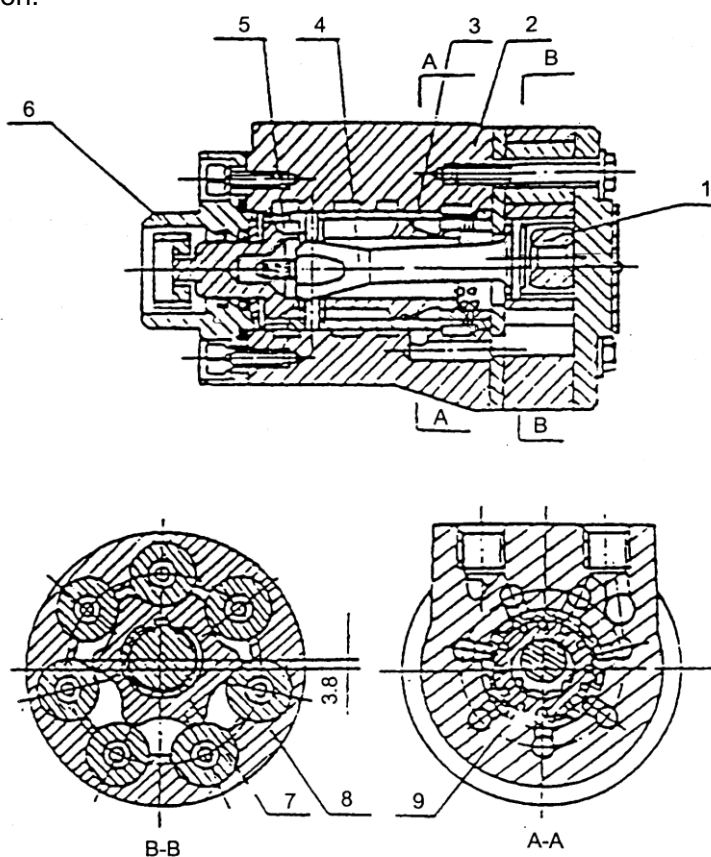

Fig. 3-2 Powered steering unit
3.1.2 Powered steering unit (Fig. 3-2)